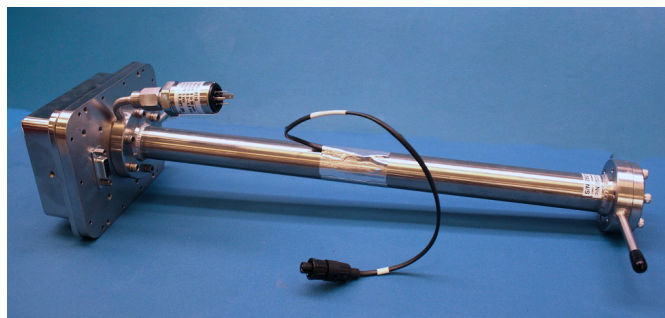

Figure B-12 Removed 0.8 m measurement cell with pressure sensor face up
1. Dismount the cell from the bracket by removing the four securing screws (two on top, two on the bottom) using a 9/64 in. hex key. Place the measurement cell on a clean, flat surface with the pressure sensor facing up. Refer to Figure B-12.